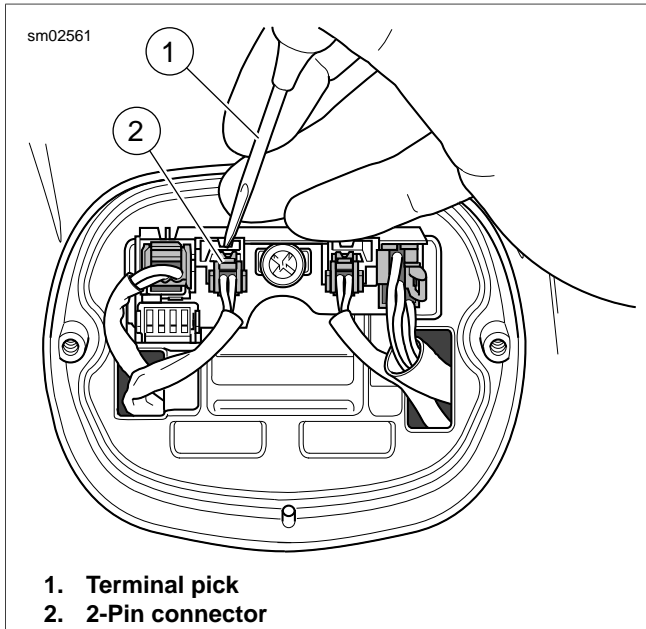

Figure 7-28. Removing 2-Pin Connectors
3. See Figure 7-28. Using a terminal pick or small screwdriver, press locking tabs and remove two 2-Pin turn signal connectors and 6-Pin Power In connector from pin housing.